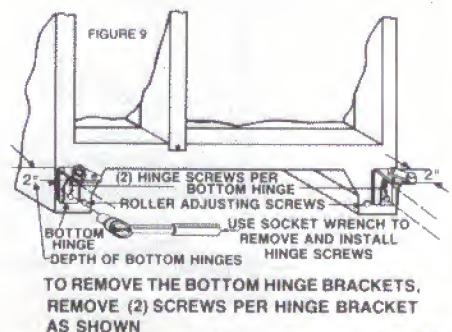

FIGURE 7
7. Remove the lower hinge bracket screws. (2) screws per lower hinge. See Figure 7.